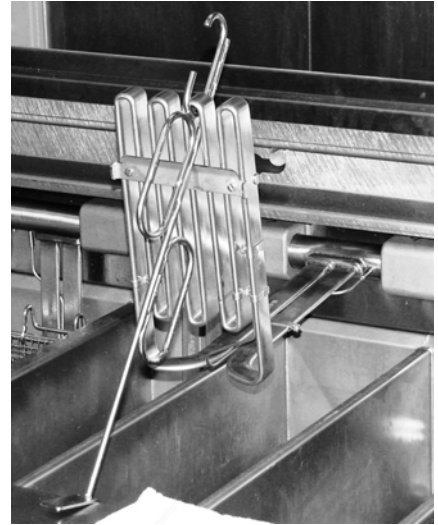

Figure 1
5. **Electric units only.** Use the lift tool and lift the hinged element to clean the bottom of the vat. Use care not to damage high limit bulb. Figure 1.